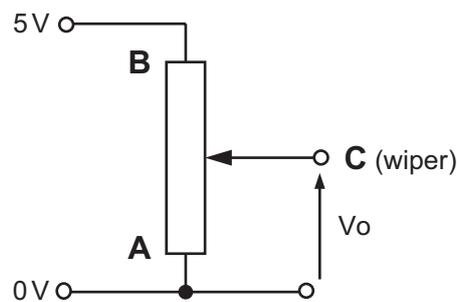

Fig. 2(a)
- 2 A linear variable resistor is arranged as shown in **Fig. 2(a)**. The voltage V_o is measured between terminal **C** (the wiper) and terminal **A**.